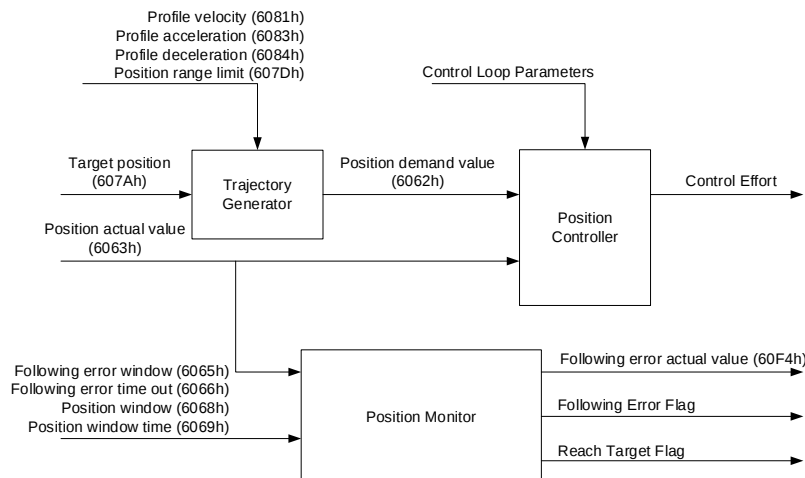

Figure 44: Profile Position Mode Block Diagram
Profile position (PP) mode accepts the user’s target position command and profile parameters. The trajectory generator automatically generates a position curve according to the profile parameters. The profile velocity, profile acceleration, and profile deceleration can be changed before a new set point is updated. Figure 44 shows the overall structure for this mode.